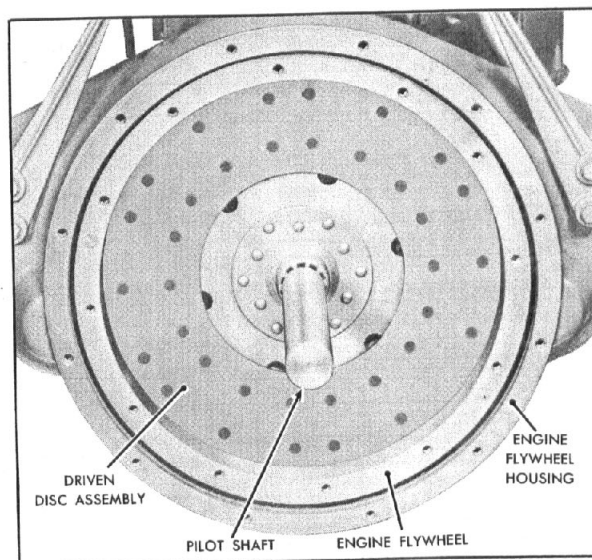

Fig. 2 - Use of Pilot Shaft in Installing Clutch.
- (1) Try cover plate assembly in flywheel before inserting driven disc assembly, so as to make sure it is a free fit in the flywheel.
- (2) Install driven disc assembly in the flywheel. Refer to Fig. 2.
- (3) Bolt the clutch assembly to the flywheel and screw in each bolt until it contacts cover plate assembly. Then gradually tighten opposite bolts until assembly is drawn tight to flywheel.
(4) Check for proper Dimension "A". See chart on page 8.
(5) Care should be used in installing the transmission to prevent bending or otherwise impairing the disc assembly which will cause clutch drag.
(6) See Par. 9 and chart on page 6 for release travel requirements.
(7) To facilitate the assembly of the transmission to the engine, the use of a spare splined pilot shaft (Fig. 2) to align the driven disc assembly while bolting the clutch in place is essential. The pressure plate end of the driven disc assembly hub has been chamfered to facilitate the insertion of the drive shaft, whereas the flywheel end of the hub is left plain.